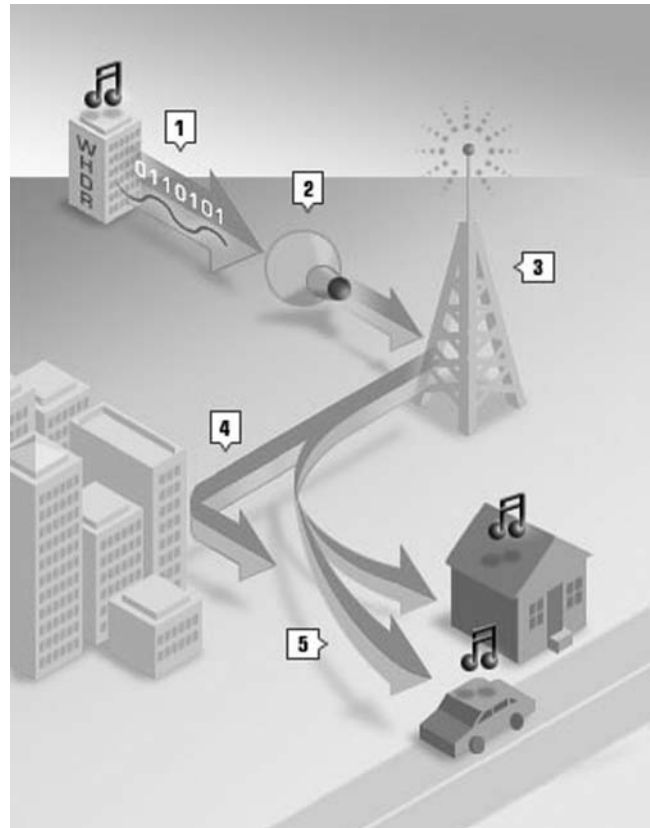

FIGURE 11.11 How HD Radio Works. (Image courtesy of iBiquity Digital Corporation.)
Figure 11.11 shows how HD radio works. The analog signal is sandwiched between digital information (1) and along with the audio program, text (such as artist and song information) can be transmitted. Once the digital signal layer is compressed (2) using iBiquity’s HDC compression technology, the combined signal is transmitted (3) on the station’s regular frequency. HD radio receivers will pick up the digital signal and older, analog radios will receive the